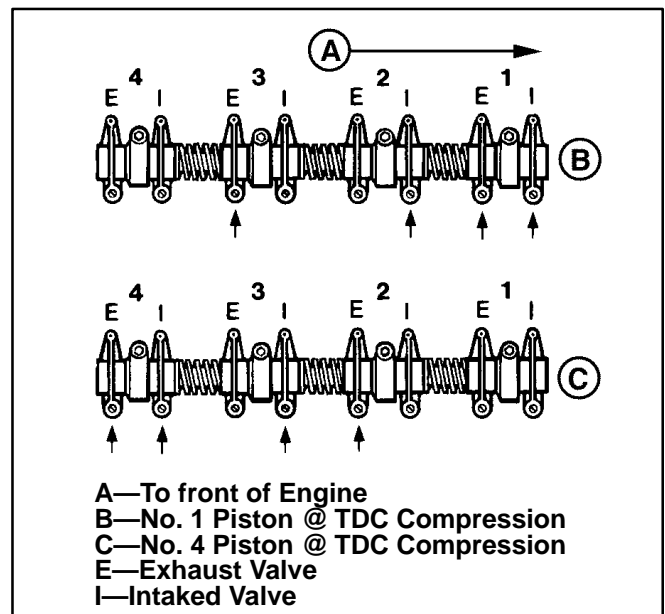
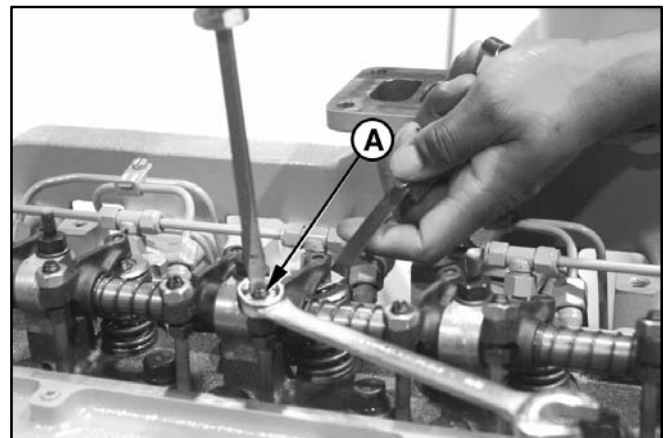

FIGURE 7-11. 4-CYLINDER ENGINES
FIGURE 7-13. SETTING SCREW JAM NUT
Note: If the No. 1 cylinder rocker arms are loose, the No. 1 cylinder is at TDC on compression. If they are tight, rotate the engine one full revolution. This is position (B) in Figures 7-11 and 7-12.
4. Check valve lash at each of the rocker arms the arrows point to in position (B) in Figure 7-11 or 7-12, as appropriate. Readjust each valve as instructed in Step 6, if necessary.
5. To check the rest of the valves, rotate the engine one full revolution and lock the flywheel with the timing pin. This is position (C). Check each rocker arm an arrow points to and readjust as instructed in Step 6, if necessary.
6. To adjust a valve, loosen rock arm adjusting screw jam nut (A), Figure 7-13. Turn the adjusting screw until the feeler gauge slips with a slight drag. Hold the adjusting screw from turning with a screwdriver and tighten the jam nut to 27 N-m (20 lb-ft). Recheck lash and readjust as necessary.